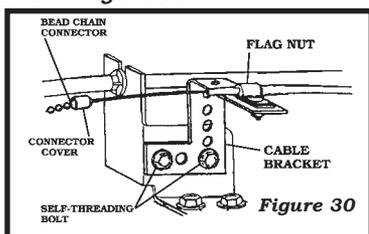

Figure 30
4. The **FLAG NUT** may also be used to anchor the **CRUISE CABLE** using the **CABLE BRACKET**. *Figure 30*